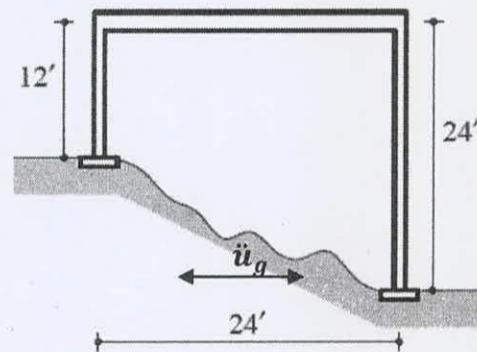

Fig. 3 (for Q. No. 3)
3. A single storey reinforced concrete (RC) building as shown in **Fig. 3** supporting a dead load of, $W = 10 \text{ kip}$ at the roof level is subjected to EL Centro ground motion in the horizontal direction. The ground acceleration as shown in **Table 1**. Each column is $10'' \times 10''$ in cross-section. The beam is assumed to be rigid ($EI_b = \infty$). Assume, $E = 3 \times 10^3 \text{ ksi}$ and 2% damping of the system. Determine the peak displacement of the frame and plot the bending moment diagram at the instant of peak response. Given, gravity acceleration, $g = 386 \text{ inch/s}^2$. Use Newmark's Beta method (constant average acceleration method). Given, initial displacement, $v_0 = 0$ and initial velocity, $\dot{v}_0 = 0$. Use equations (i) to (iv) given herewith. **(23 1/3)**